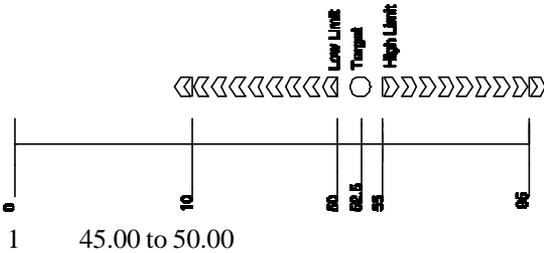

Figure 3-3: Example #2 Bargraph Segments (Weighted Value)
**Example#2: : “ChecP” (refer to Figure 3-3)**